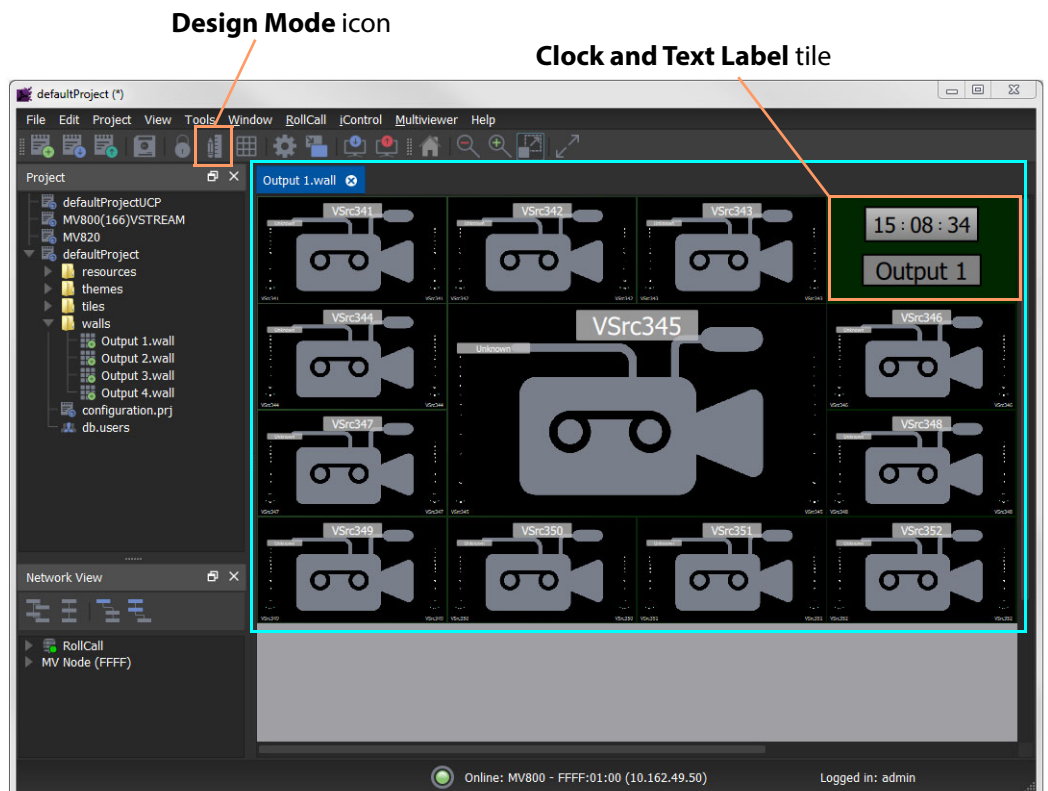

Fig. 9-17: Wall Editor in Run Mode
Figure 9-17 shows the Orbit **Wall Editor** in **Run Mode**. To perform edits to the multiviewer video wall, the **Wall Editor** must be in **Design Mode**.
- 2 Click the **Design Mode** icon in the main menu.(See Figure 9-17.) Orbit enters **Design Mode**. See Figure 9-18.